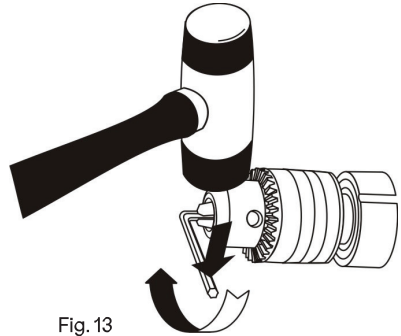

Fig. 13
2. Tap the hex key sharply with a mallet in a CLOCKWISE direction (Fig. 13). This will tighten the chuck on the spindle.